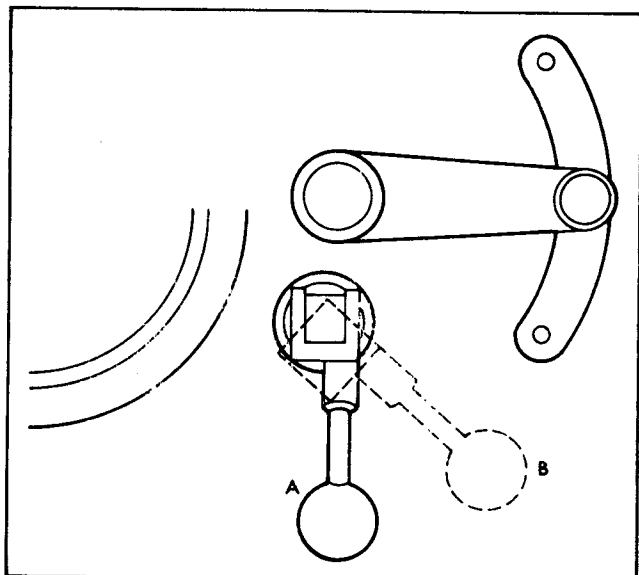

Figure 11 — Clutch Lever Adjustment
1. After binder cam "T" is adjusted to proper position, it may not be as in "A" Fig. 11.